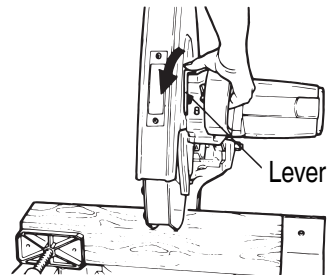

Fig. 7
5. Ink line matching operation (**Fig. 7**)
For cutting along a ink line marked on the workpiece, operate the lever located on the handle side of the saw cover as illustrated in **Fig. 7** to lift the lower guard and align the saw blade with the ink line before starting cutting operation.